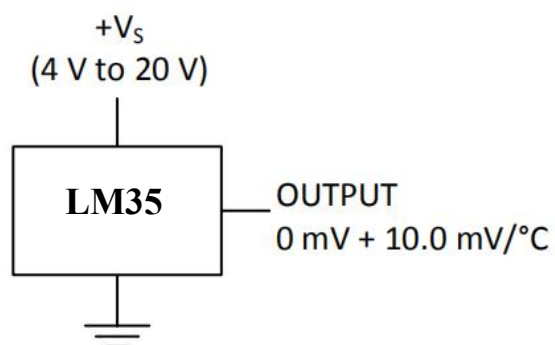

Figure 1. Basic Centigrade Temperature Sensor (2°C to 150 °C)
Unless otherwise noted, these specifications apply:  $-40^{\circ}\text{C} \leq T_J \leq 125^{\circ}\text{C}$  for the LM35C; and  $0^{\circ}\text{C} \leq T_J \leq 100^{\circ}\text{C}$  for the LM35D.  $V_S = 5\text{Vdc}$  and  $I_{\text{LOAD}} = 50\text{ }\mu\text{A}$ , in the circuit of Full-Range Centigrade Temperature Sensor. These specifications also apply from  $2^{\circ}\text{C}$  to  $T_{\text{MAX}}$  in the circuit of Figure 1.
(1) Tested Limits are ensured and 100% tested in production.
(2) Design Limits are ensured (but not 100% production tested) over the indicated temperature and supply voltage ranges. These limits are not used to calculate outgoing quality levels.
(3) Accuracy is defined as the error between the output voltage and  $10\text{ mV}/^{\circ}\text{C}$  times the case temperature of the device, at specified conditions of voltage, current, and temperature (expressed in  $^{\circ}\text{C}$ ).
(4) Non-linearity is defined as the deviation of the output-voltage-versus-temperature curve from the best-fit straight line, over the rated temperature range of the device.
(5) Regulation is measured at constant junction temperature, using pulse testing with a low duty cycle. Changes in output due to heating effects can be computed by multiplying the internal dissipation by the thermal resistance.
(6) Quiescent current is defined in the circuit of Figure 1.